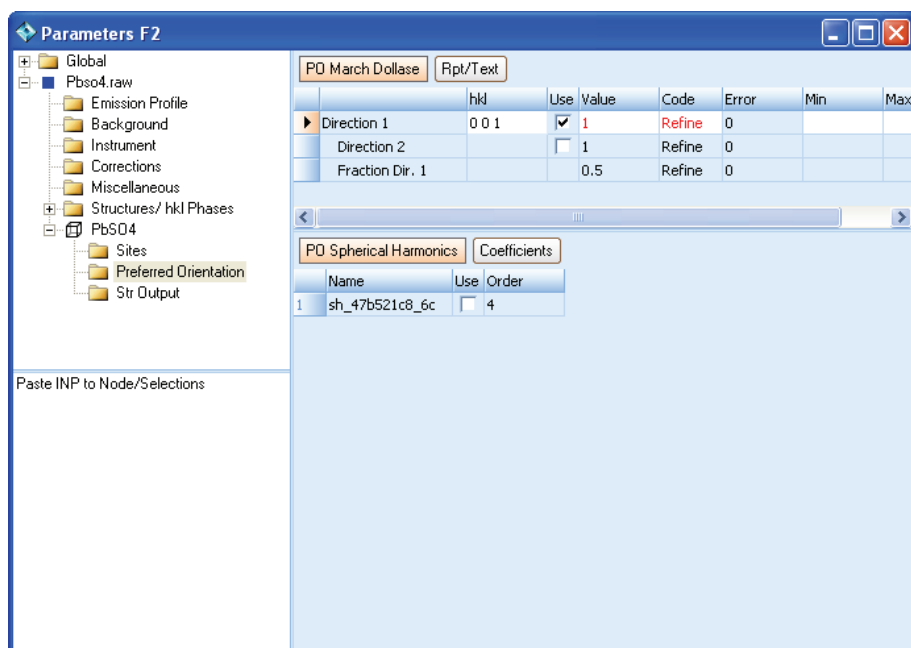

Fig. 4-16: *Preferred Orientation* item.
The *Preferred Orientation* item (Fig. 4-16) offers two models for preferred orientation correction.
1. *March-Dollase* (March, 1932) preferred orientation correction for up to two directions. *hkl* provided in the *hkl* field needs to be separated with spaces as shown in Fig. 4-16.